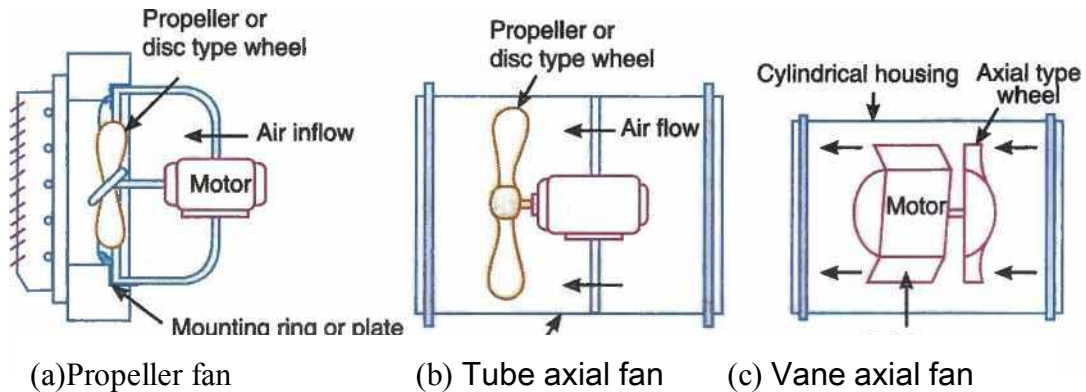

Fig. 4. Types of axial flow fans.
1. **Propeller fan.** A propeller type of axial flow fan consists of a propeller or disc type wheel which operates within a mounting ring as shown in Fig.4 (a). The propeller fans are used only when the resistance to air movement is small. They are useful for the ventilation of attic spaces, lavatories and bathrooms, removal of cooking odours from kitchens and many other applications where little or no duct work is involved.
2. **Tube axial fan.** A tube axial fan, consists of a propeller wheel housed in a simple cylinder as shown in Fig.4 (b). These fans are easily installed in round ducts. They are more efficient than propeller fans. The air discharge from tube axial fan follows a spiral path as it leaves the cylindrical housing.
3. **Vane axial fan.** A vane axial fan combines a tube axial fan wheel mounted in a cylinder with a set of air guide vanes, as shown in Fig.4 (c). The efficiency of operation and the pressure characteristics are better than those of tube axial fan.